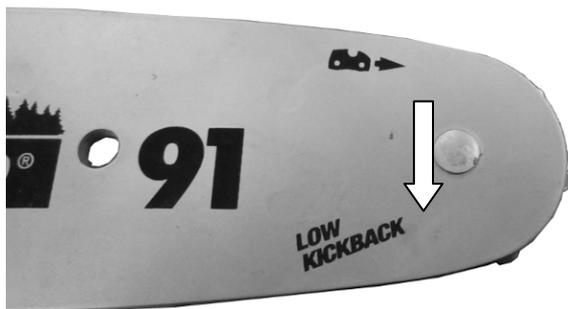

Fig.44
- Lubricate the grease port with bearing grease. (Fig.44)